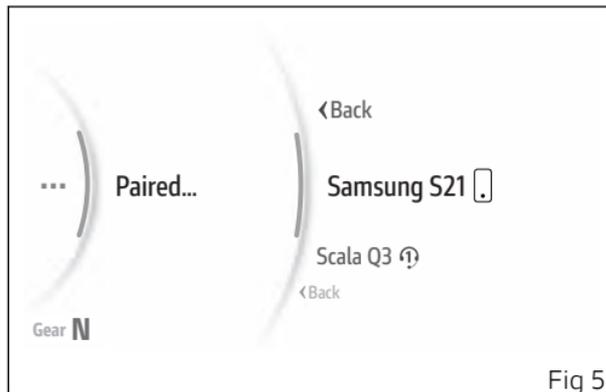

Fig 5
- From the Interactive Menu, use buttons (1) and (2) to select the item "Setting menu" and press ENTER (3).
- Select the "Bluetooth" item and press ENTER (3).
- Select the "Paired devices" item and press ENTER (3).
The paired devices (Fig 5) are listed. Press buttons (1) and (2) to select the desired device and press ENTER (3).